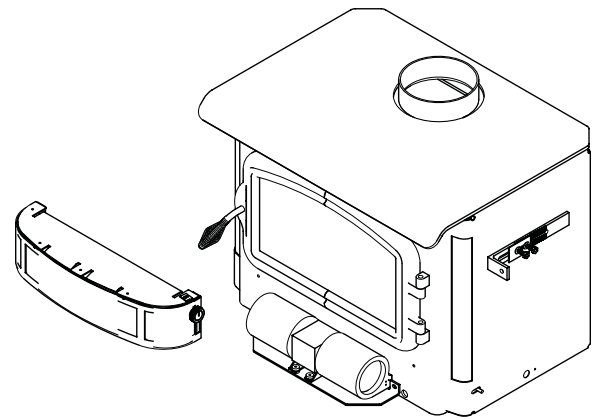

Figure 14
3. The chimney should extend at least 3' (914 mm) above the highest point where it passes through the roof, and at least 2' (610 mm) higher than any portion of a building within 10' (3 m). *Figure 14.*